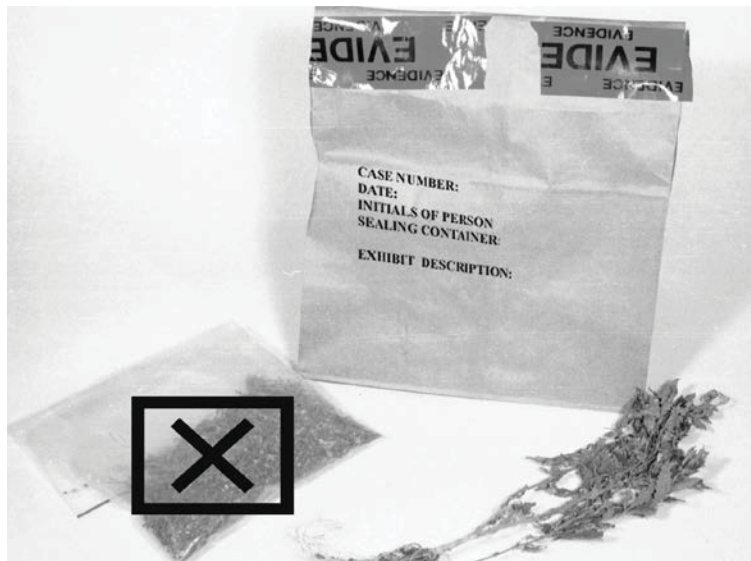

Figure 7—Incorrect and Correct Method of Packaging Fresh Plant Material
- **DON'T use plastic bags for packaging wet or freshly cut plant materials. They will mold. (Figure 7)**